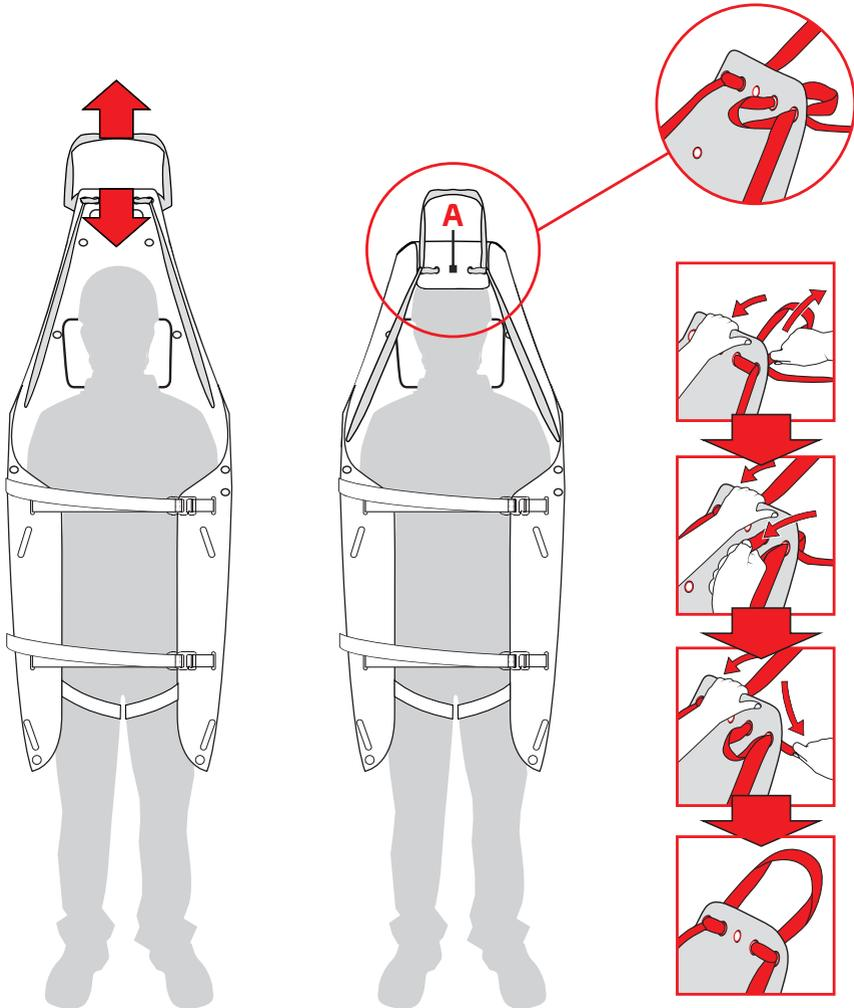

Fig.13
- a) Dragging: tension the sling (E) to lift the end part of the support surface (A) enough to contain the head of the patient and immobilise it (fig. 13).